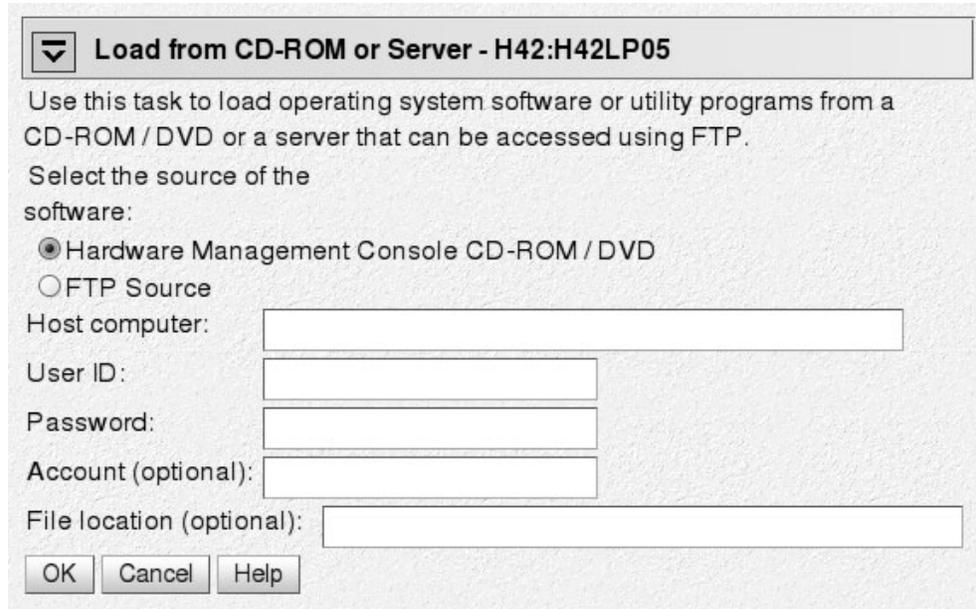

Figure 68. Load from CD-ROM or Server panel
- a. Select **Hardware Management Console CD-ROM/DVD** (see Figure 68 on page 338).